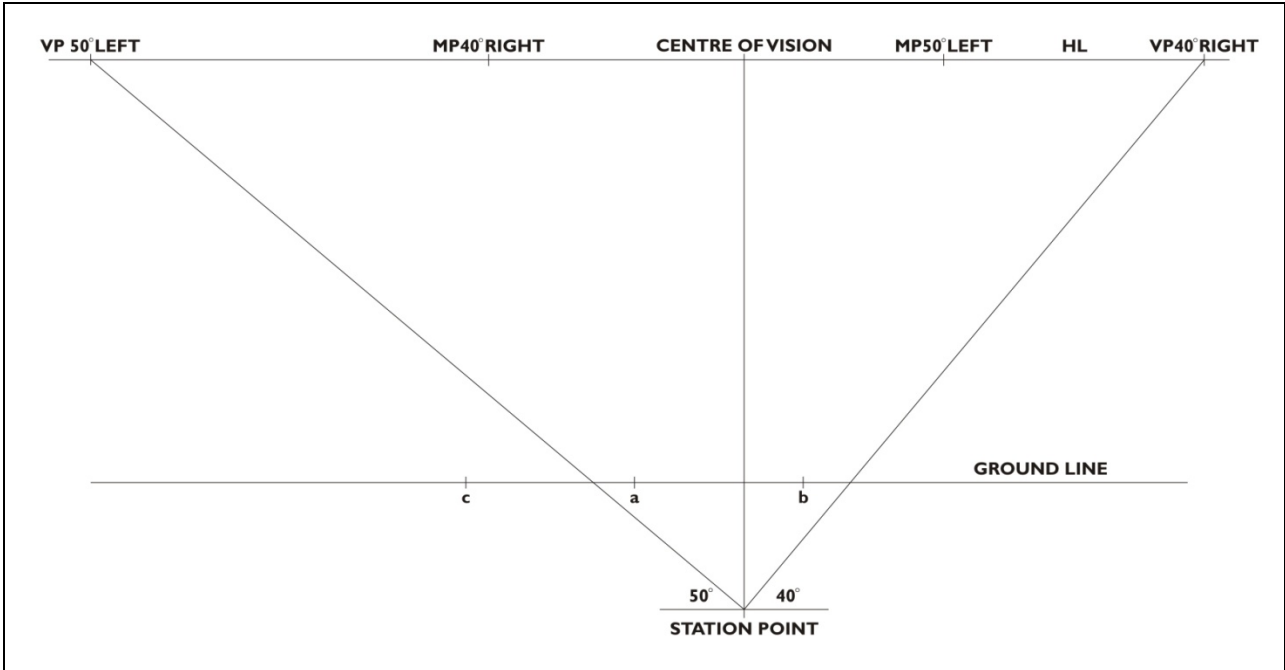

Figure 3.5 Two-point perspective establishing points a-b-c
4. From point a measure 40 mm to the left (the other side of the cube) and mark this point c. Refer to Figure 3.5.